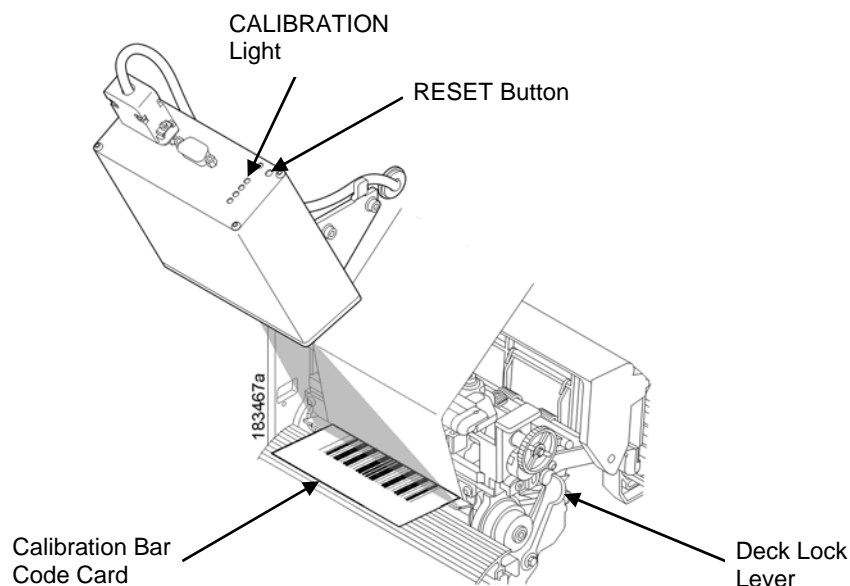

Figure 23 Calibrating the Validator
3. Remove the calibration bar code card from its protective sleeve and slide the top edge between the printhead and platen and under the scanning beam.(Figure 23)